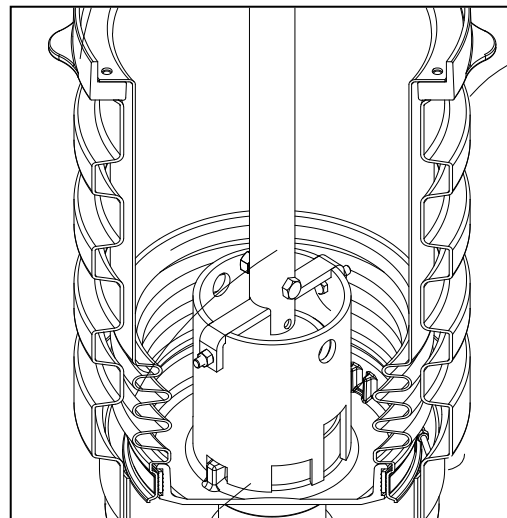

Figure 3
Step 6: (See Figure 3)
Step 7: (See Figure 3)
Step 1-3122 #3: (See Figure 3)
Step 1-3122 #4: (See Figure 3 & 1-3122 #2)